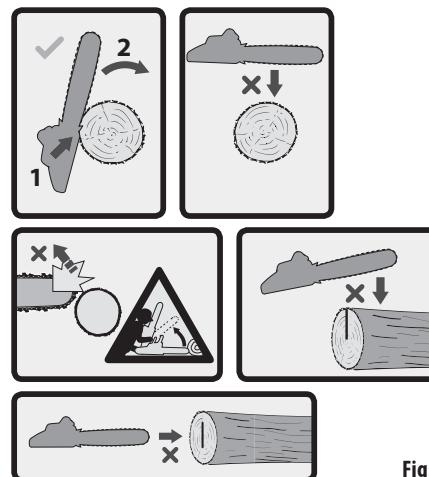

Fig. 9
- Place the chainsaw with the bottom part of the bumper spikes (fig. 8 and fig. 9) pushing against the log and gently push on the front handle to turn it to the opposite side of the log, so that the guide bar is pointing downwards. By moving the chainsaw backwards, move the bumper spikes lower on the log and repeat the whole procedure until you have cut through the log (fig. 8 and fig. 9).